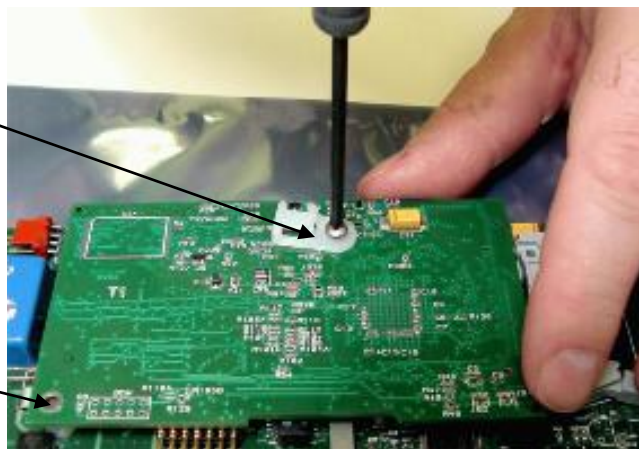

Figure 5.3a
- (1) Remove the two (2) Phillips-head screws that hold the PC-323 onto the PC-322 board. (**Figure 5.3a**)